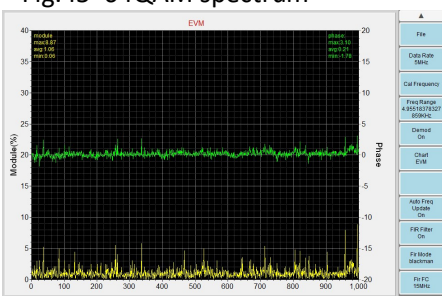

Fig.48 64QAM EVM
- **EVM:** Select *EVM* to view both magnitude and phase EVM results (see Fig. 48). Markers show **average**, **minimum**, and **maximum** values.